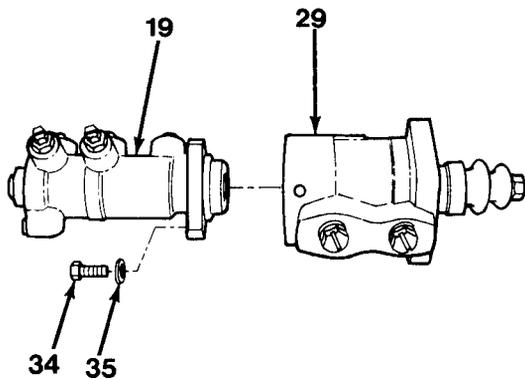

Figure 17-4
1. Matchmark across ends of brake booster valve (29) and master cylinder (19, Figure 17-4) where they attach.
2. Remove three cap screws (34) and washers (35) from master cylinder (19). Separate booster valve (29) and master cylinder (19).